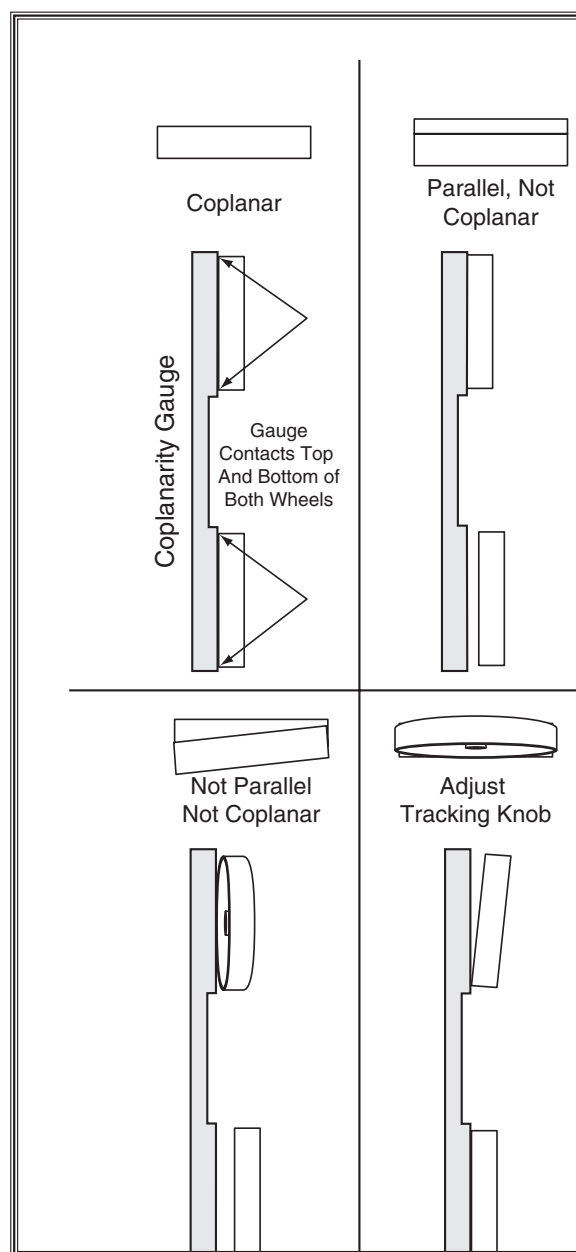

Figure 5. Coplanar diagram.
When wheels are aligned, or coplanar, the bandsaw cuts straighter, with much less vibration, heat, and blade wear because the blade is automatically balanced on the wheel. See **Figure 5** to better understand coplanarity.
2. With the blade on and properly tensioned, hold a straightedge or a self-made "coplanarity gauge" (**Figure 5**) close to the center of both wheels. Make sure the straightedge or gauge fully extends across the wheels as shown in **Figure 5**.